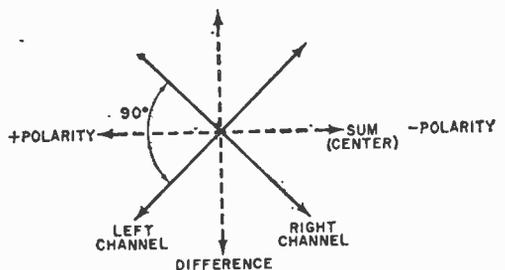

Fig. 1. Stylus motions in two-channel disc groove. Dotted arrows are resultants of left/right axes.
**In the Groove.** The easiest way to visualize how matrixing works in the Scheiber and Hafler systems is in terms of stylus motion in a disc groove. The solid arrows in Fig. 1 show the direction in which the stylus tip vibrates in a conventional two-channel recording, as viewed from the front of the pickup. Modulations in the left and right channels are at a
The dotted horizontal arrow in Fig. 1 represents the direction of stylus motion when both stereo channels carry identical in-phase information (that is, both move simultaneously at 45 degrees to left or right). The *average* motion then is horizontal, at 45 degrees to each axis, separation is only 50% and each main channel reproduces half of the resulting signal in-phase. This condition causes the sound to "appear" midway between the side speakers, directly in front of the listener. Normally, it is a "phantom" center, since it seems to be coming from a loudspeaker where there is no loudspeaker, but if a third speaker is connected so as to receive the combined signals from the left and right channels, the resulting "matrixed" signal will appear from that speaker twice as loud as from either side speaker. This effectively derives a third channel from the original two.